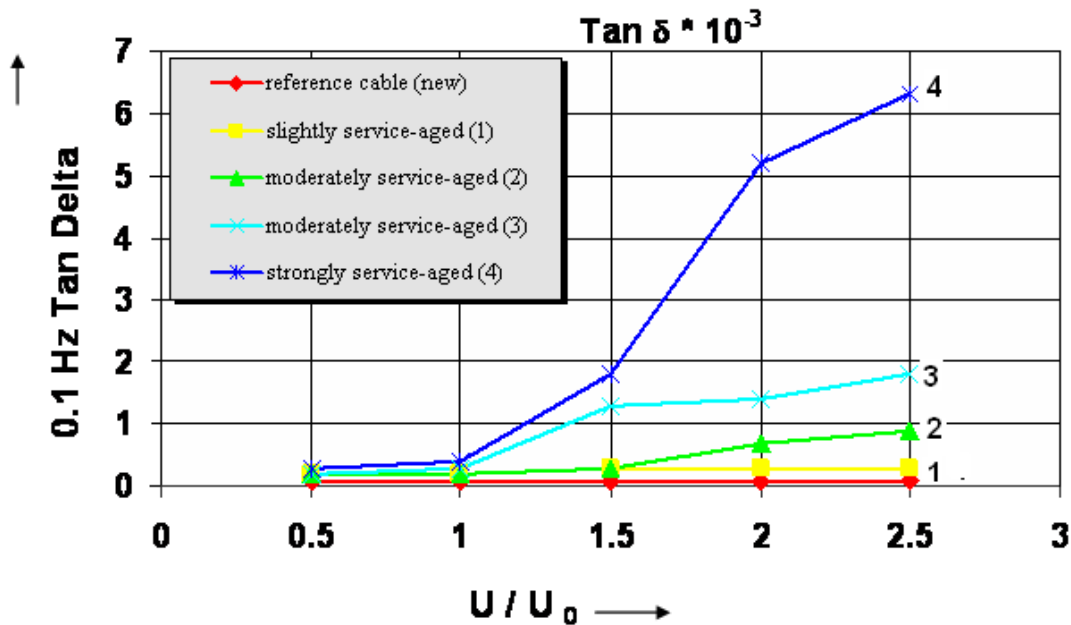

Fig 4. Typical Tan delta measurements for a polymeric cable
The above graph (Fig 4) shows the type of results that will be obtained by Tan Delta testing of typical polymeric circuits. If the Tan Delta results are similar to the blue line (4) shown on the above graph, then the circuit needs to be investigated to see what is causing that ‘kick’ in the Tan Delta line. If a poor Tan Delta result is obtained, PD mapping of the circuit should then be undertaken to find the section of cable or accessory that is causing the problem.